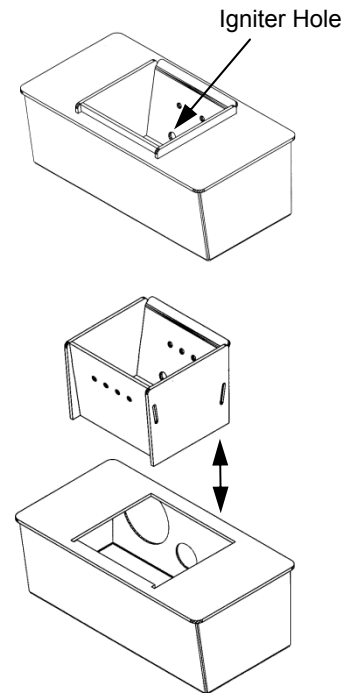

FIGURE 23
- Open door and remove the optional imitation log set, if in use. Remove the burnpot's inner section by grasping it and pulling straight up (see Figure 23).
- Replace inner section into burnpot; make sure it is level and pushed all the way back down and that the igniter hole is to the rear when it is reinstalled (see Figure 23).